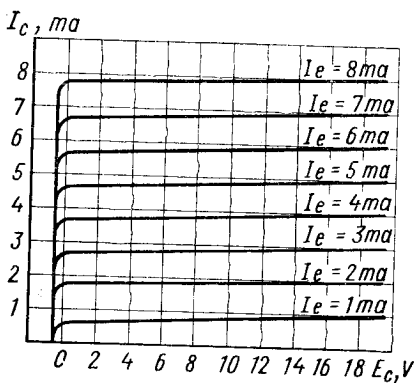

Fig. 14. Collector current vs collector-to-base voltage for a $p-n-p$ junction transistor
4. A family of collector current — collector voltage I_c-E_c characteristics⁴ for the same $p-n-p$ junction transistor is shown in Fig. 14. Each curve in Fig. 14 represents the
6. The $I_c - E_c$ curves in Fig. 14 also show that a very large change in the collector voltage produces only a tiny change in the collector current, which means that the output resistance of the transistor i.e. the ratio of the voltage-to-current change⁵ is also very high. This sheds some light on the process of voltage and power amplification in a transistor.